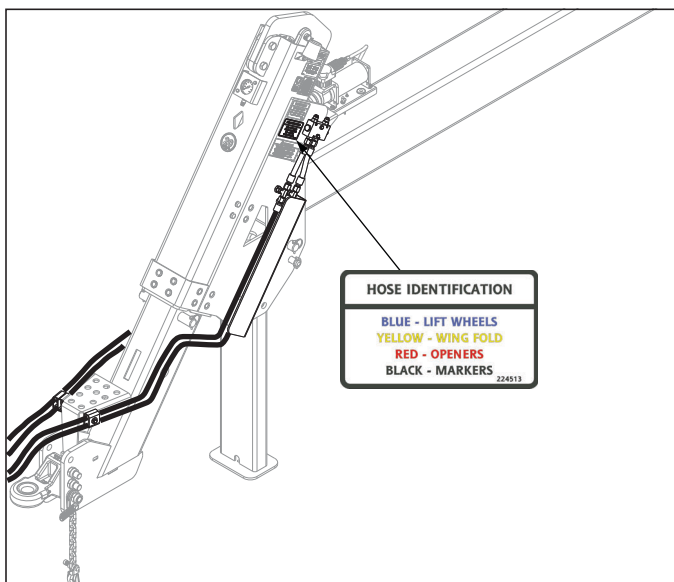

Figure 5-2: Hose Decal
1. The hydraulic hose ends are color coded to help identify and match the attaching hoses on the Grain Drill. An identification decal is placed on the front of the hitch to help identify the hoses *See Figure 5-2.*